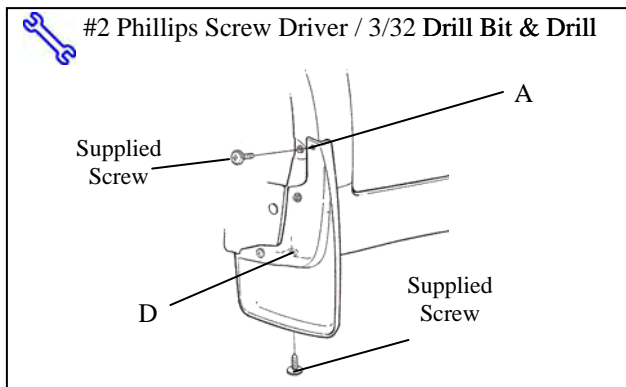

Fig. 4-2
- (b) While holding part in position, drill 2.5mm (3/32') centre pilot holes in location A and D. (Fig 4-2)
- (c) Install supplied 19mm self tapping screws into locations A and D while holding part into body panel. (Fig. 4-2)